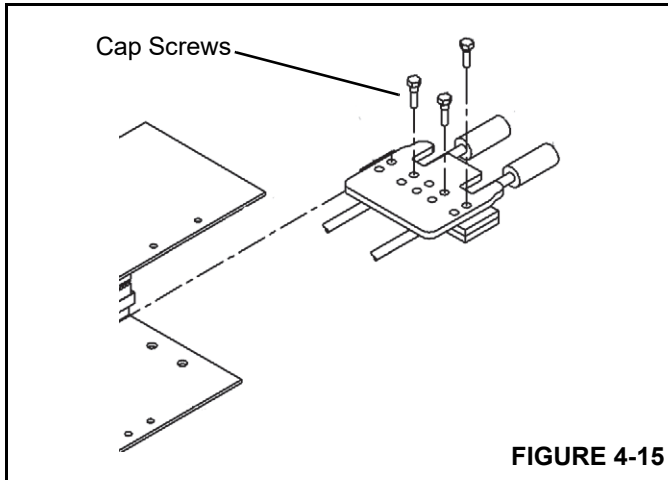

FIGURE 4-15
5. At the base end of the 4th section (Figure 4-15) install the anchor assembly in the following order: